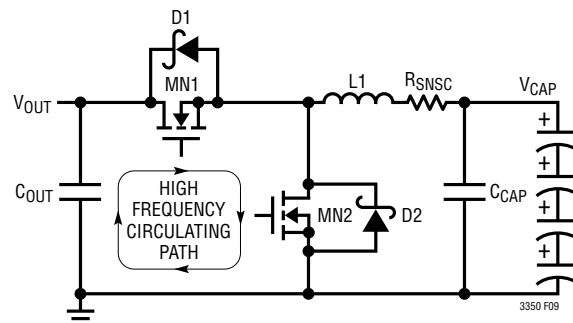

Figure 9. High Speed Switching Path
1. Keep MN1, MN2, D1, D2 and C_{OUT} close together. The high di/dt loop formed by the MOSFETs, Schottky diodes and the V_{OUT} capacitance, shown in Figure 9, should have short, wide traces to minimize high frequency noise and voltage stress from inductive ringing.